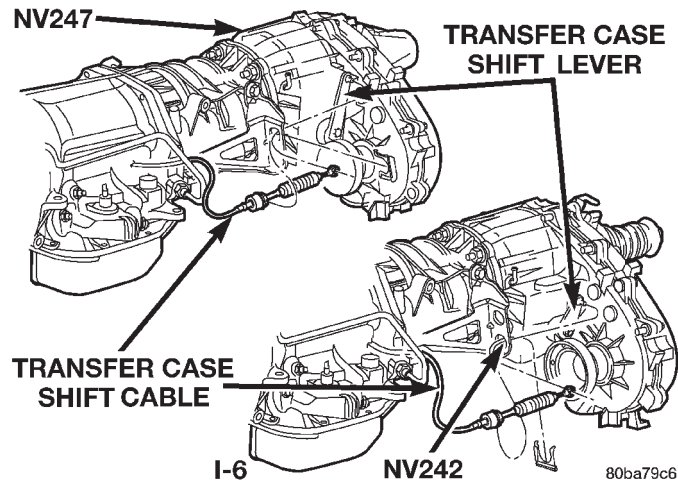
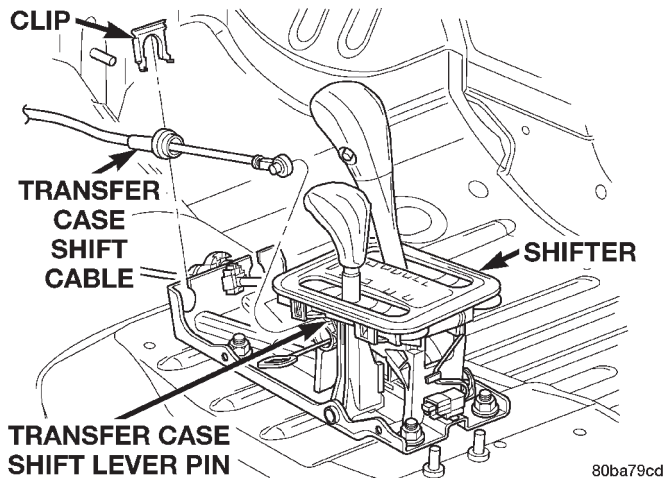

Fig. 6 Transfer Case Shift Cable at Transfer Case
Fig. 7 Transfer Case Shift Cable at Shifter
- (1) Shift transfer case into neutral.
- (2) Raise vehicle.
- (3) Disconnect the shift cable eyelet from the transfer case shift lever (Fig. 6).
- (4) Remove shift cable from the cable support bracket.
- (5) Lower vehicle.
- (6) Remove shift lever bezel and necessary console parts for access to shift lever assembly and shift cable.
(7) Disconnect cable at shift lever and shifter assembly bracket (Fig. 7).
(4) Install the transfer case shift cable to the shifter assembly bracket. Seat cable in bracket and install clip (Fig. 7).
(5) Verify the transfer case shift lever (at console) is in the NEUTRAL position.
(6) Snap the cable onto the shift lever pin (Fig. 7).
(7) Raise the vehicle.
(8) Install the shift cable to the shift cable support bracket and install clip (Fig. 6).
(9) Verify that the transfer case is still in the NEUTRAL position.
(10) Snap the shift cable onto the transfer case shift lever (Fig. 6).
(11) Lower vehicle.
(12) Verify correct transfer case operation in all ranges.
(13) Install shift lever bezel and any console parts removed for access to transfer case shift cable.